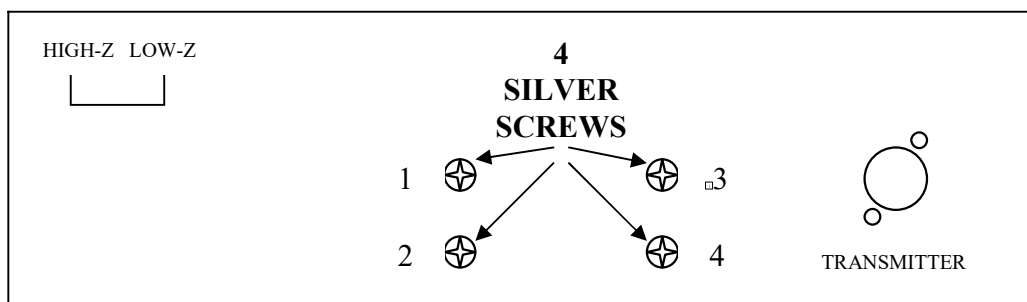

Figure 2: Rear Panel of MFJ-1625 Window/Balcony Whip Tuner
2. Take out the 4 silver Phillips head screws in the back of the MFJ-1625 Window/Balcony Mount Whip Tuner. (See Figure 2)